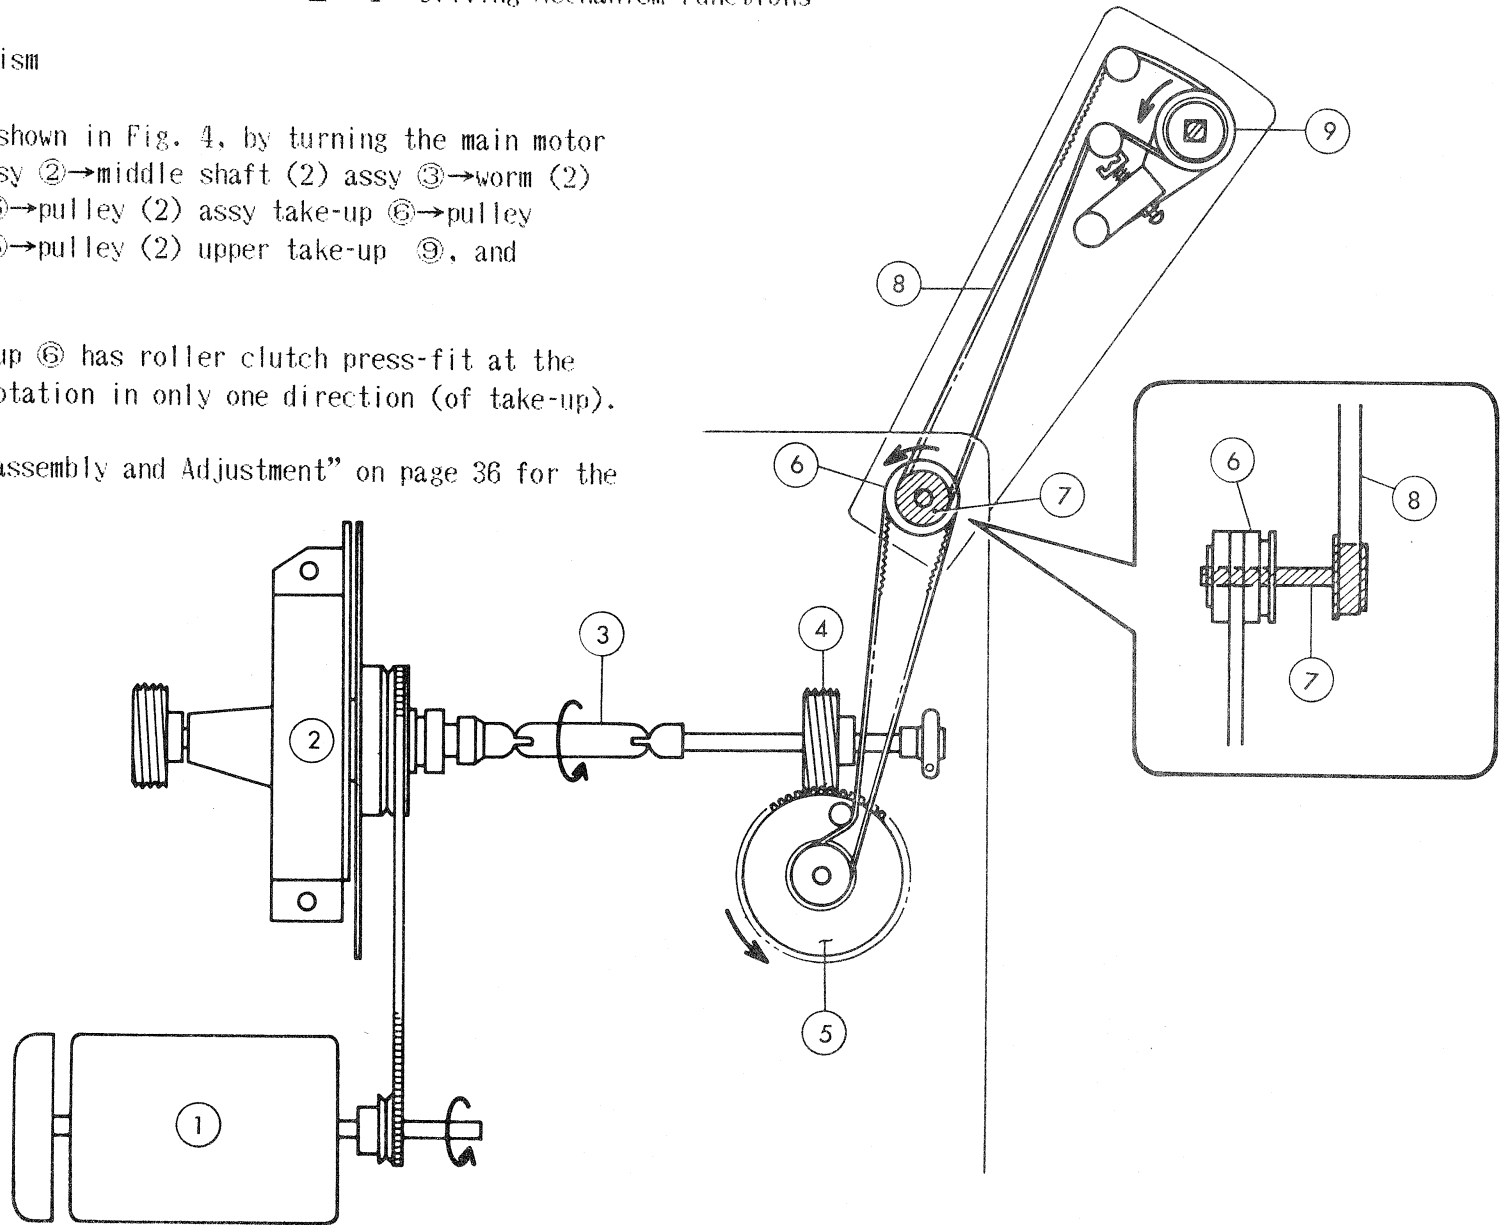

Fig.4
The film is taken up, as shown in Fig. 4, by turning the main motor ①→claw section frame assy ②→middle shaft (2) assy ③→worm (2) ④→worm gear (2) assy ⑤→pulley (2) assy take-up ⑥→pulley shaft take-up ⑦→belt ⑧→pulley (2) upper take-up ⑨, and rotating the reel.